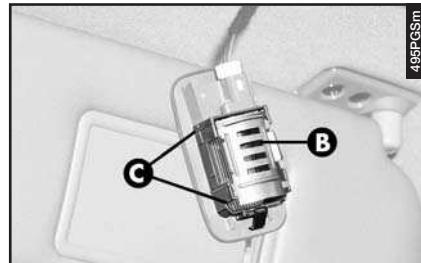

fig. 74
- Remove the screen (**B**-fig. 74) releasing it from the catches (**C**-fig. 74)
- Refit the screen (**B**-fig. 74) inserting it correctly between the catches (**C**-fig. 74).